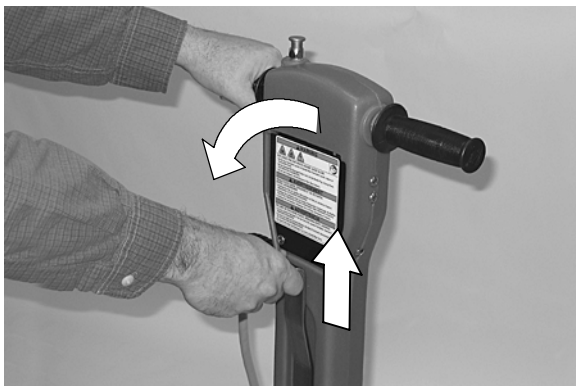

FIG. 4
2. Release the handle from the upright position by lifting the handle release lever and lowering the handle (Figure 4).